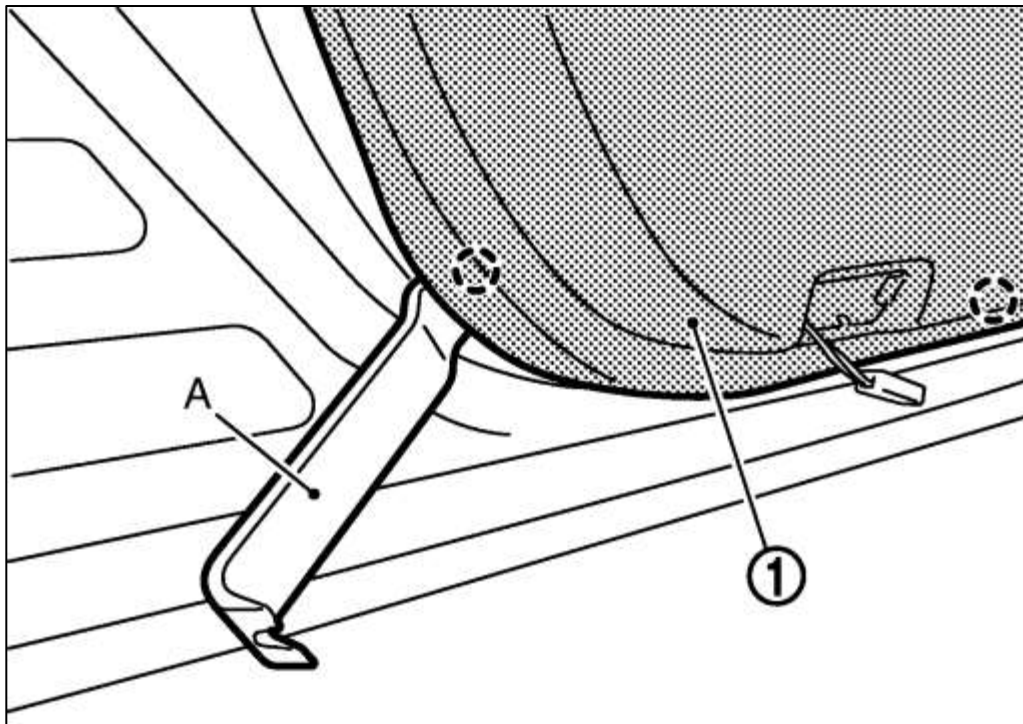

Figure 69
7. Starting at the bottom of the Door, use a Trim Removal tool to pry the Door Panel away from the Door. Once all clips are disconnected, pull up and away to remove the Door Panel. *Figure 69.*